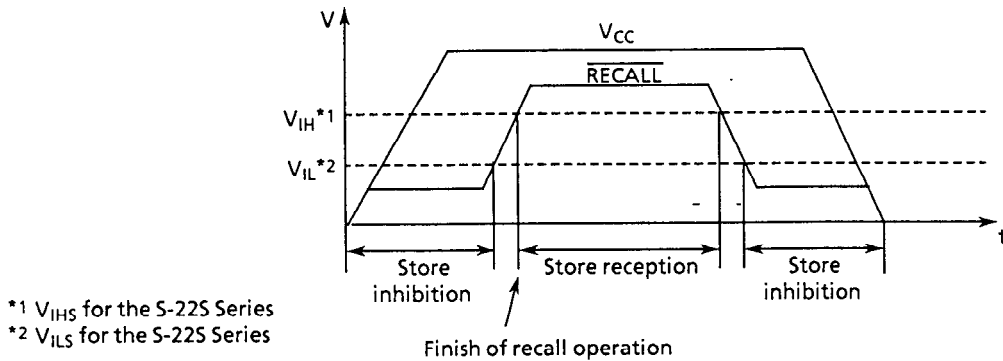

Figure 9 STORE inhibition period and reception period at power ON and OFF
- $\overline{\text{RECALL}}$  goes  $V_{IL}(V_{ILS})$  when power turns on or off (see Figure 9).